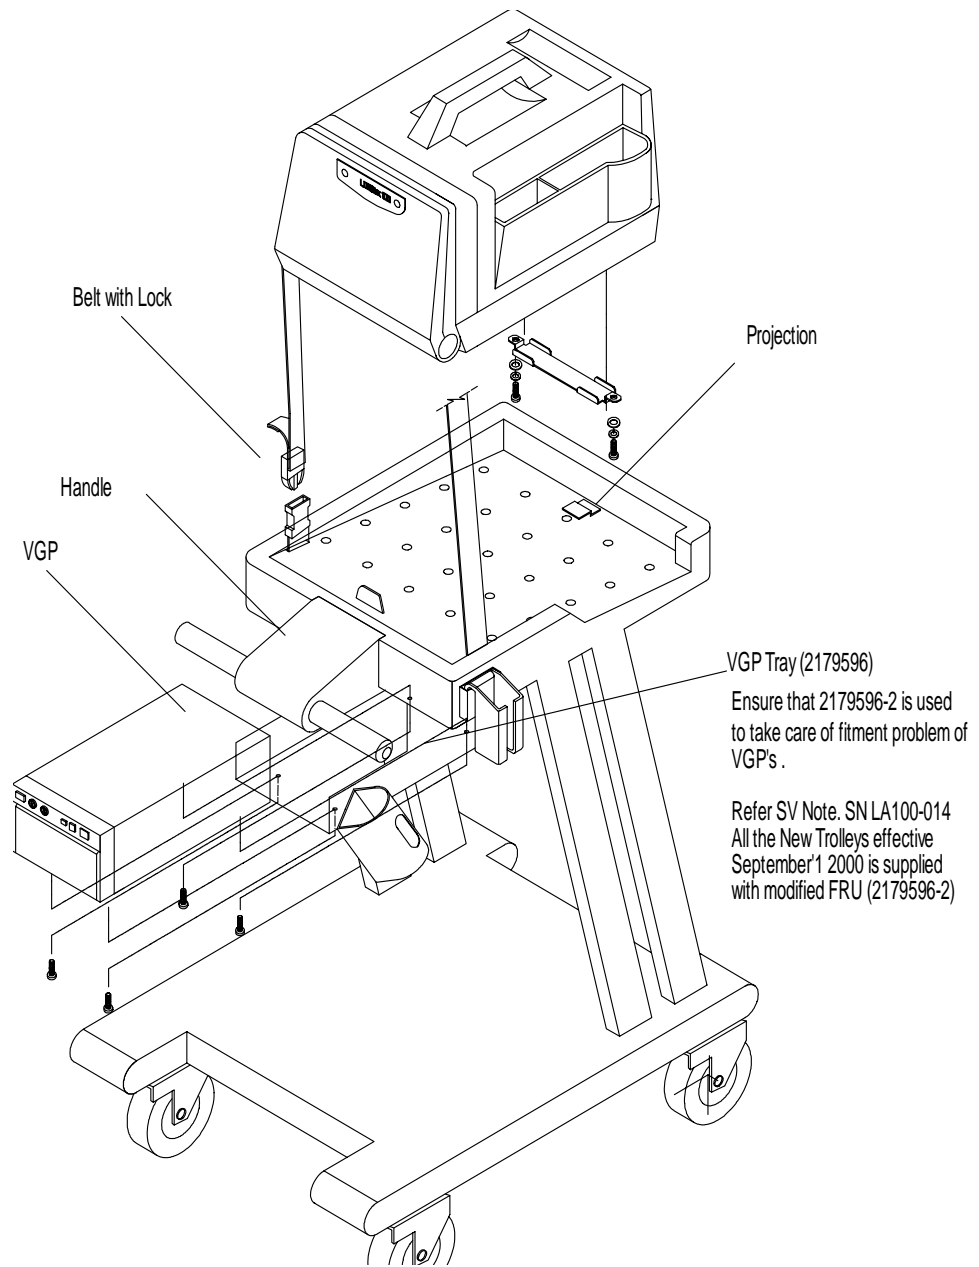

Figure 3-12 Installation of LOGIQ™ 100 PRO with the Trolley
- 5.) Take the belt (provided in the kit) over the unit and lock it. Refer Figure 3-12
- 6.) Release the Keyboard by pressing the lock release and make it rest on the handle. Refer Figure 3-12
- 7.) Insert the VGP inside the Printer Tray and fix from the bottom using M3X12 screw. Refer Figure 3-12